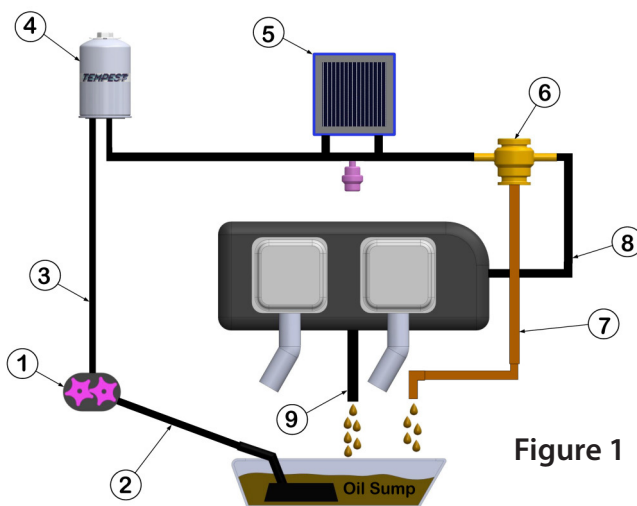

Figure 1
Figure 1 shows an illustrative engine oil system. The pump (1) sucks oil up from the sump through a tube (2) and pushes it through another oil passage (3) to the filter (4). After passing through the filter the oil goes to the oil cooler (5) and the pressure relief valve (6). The pressure relief dumps excess pump discharge (7) back in the sump. The remaining oil goes through the engine's lubricating system (8). After use, it returns (9) to the sump and the cycle starts again.